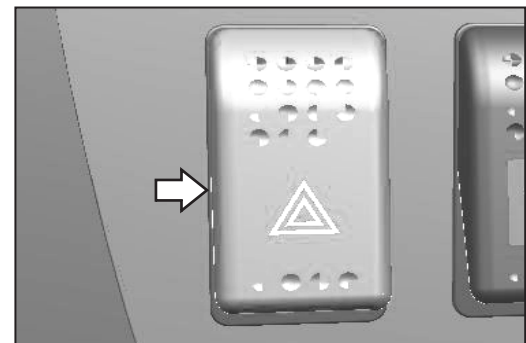

Fig. 3.3.1
3.3.1 Hazard Warning Light Switch (Fig. 3.3.1):